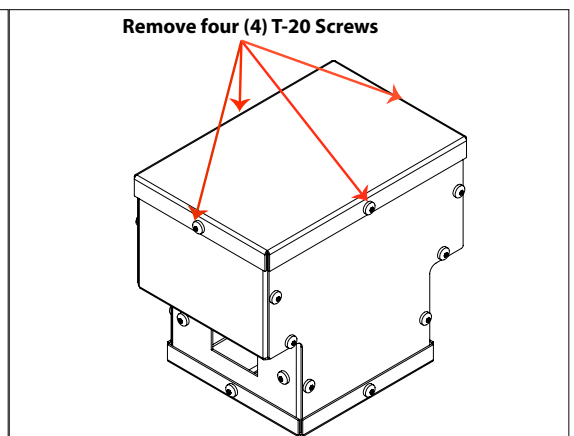

Figure 28: Valve Box Lid Removal
5. Remove the 4 screws around the top of the valve box (Figure 28) and pop off the top piece to gain access to the valve.